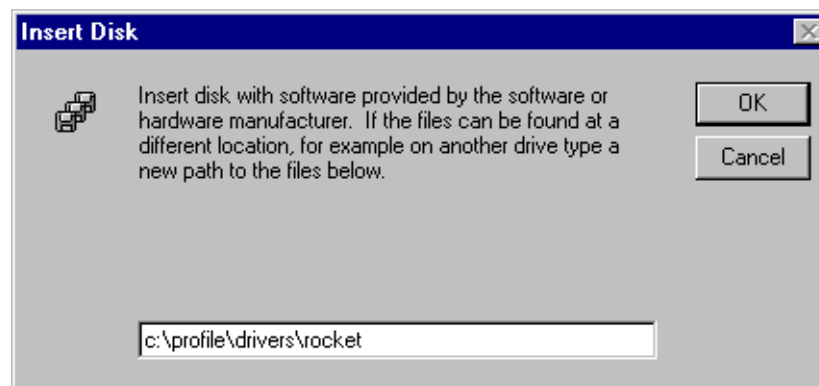

Figure 2. Type the path to the device driver files
6. When you are prompted, type `c:\profile\drivers\rocket` as the path of the directory containing the driver files (see Figure 2) and click **OK**.